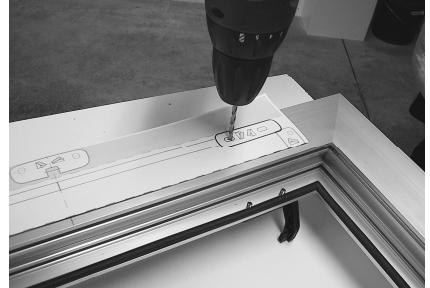

Figure 8
- E. Bore holes in the window frame at the points indicated on the template (Fig. 8).